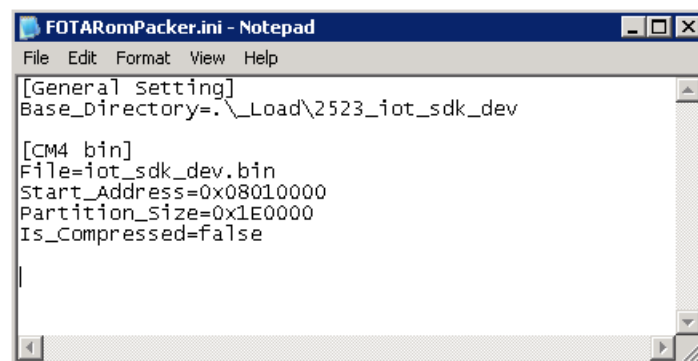

Figure 4. FOTARomPacker.ini FOTA configuration file content
- Set the load path to the line below [General Setting] (see Figure 4).